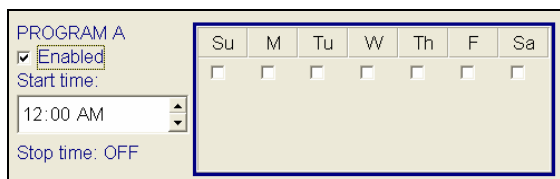

Figure 16.1.8C
6. Next check the **Enabled** box for each program that you want to use (Figure 16.1.8C).